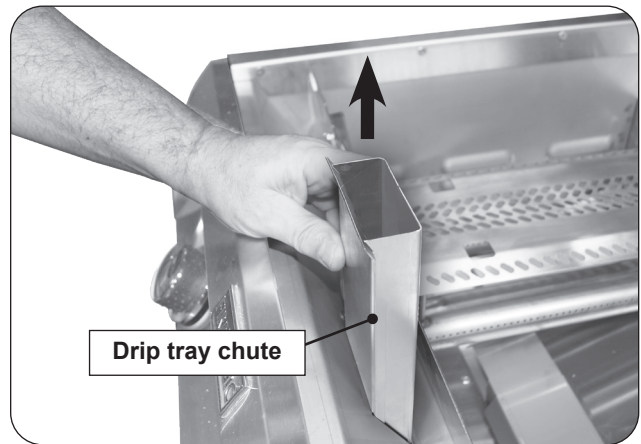

Fig. 40-2 Drip tray chute removal
2. Remove the drip tray chute by pulling it upward (see Fig. 40-2).